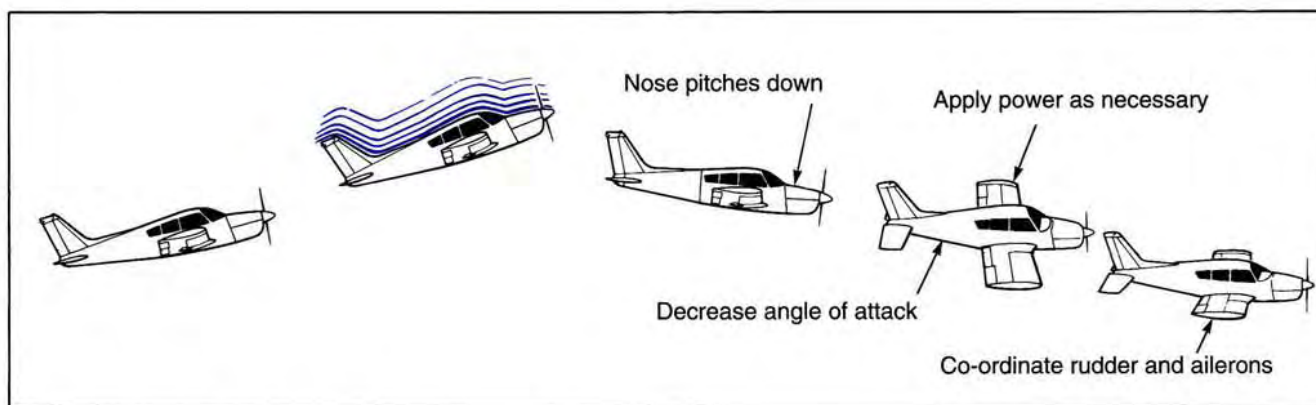

Figure 2-27 Full Stall Recovery
2. Regain a correct flight attitude with co-ordinated use of flight controls. Not every situation demands the application of power, but its use must become an integral part of the recovery procedure (Fig. 2-27).